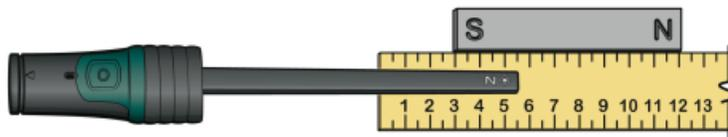

Figure 3
11. Move the sensor and repeat the Step 10 procedure at 1 cm intervals until you have reached a point 3 cm beyond the N-pole end of the bar magnet. **Important:** Keep the Magnetic Field Sensor parallel to the bar magnet during data collection, as shown in Figure 3.